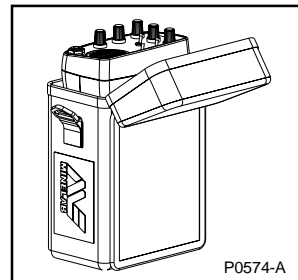

Figure 7 - Hipmounting the control box
- b) Place the control box into the hipmount bag with its control panel facing outwards (see figure 7).